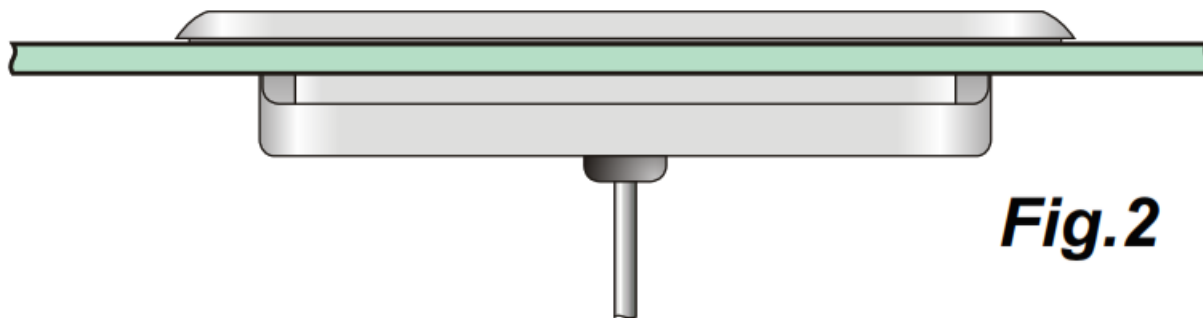

Fig.2
Step 2 – Remove the double sided adhesive from the back of the spaside. Make certain the spaside is straight and adhere to the spa shell. (Fig.2)